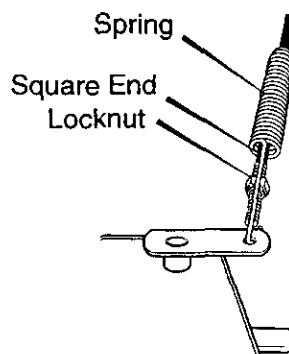

Figure 21
3. Pull spring cover up to expose **spring**. Push the cable through the **spring** to expose the threaded portion of the cable. See Figure 21.